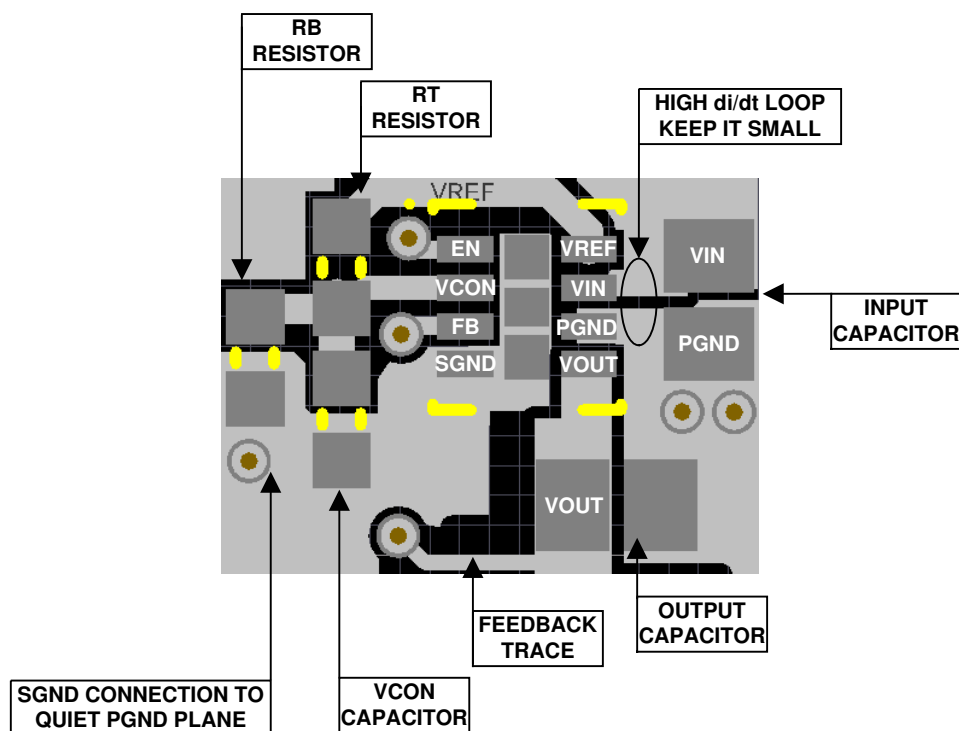

図 8-26. Example Top Layer Board Layout
The LMZ10500 integrates the inductor and simplifies the DC/DC converter board layout. Refer to the example layout in Figure 8-26. There are a few basic requirements to achieve a good LMZ10500 layout.
2. Place the V_{CON} filter capacitor C_{VC} and the R_{B} R_{T} resistive divider as close as possible to the V_{CON} and SGND terminals. The C_{VC} capacitor (not R_{B}) must be the component closer to the V_{CON} pin, as shown in Figure 8-26. This allows for better bypass of the control voltage set at V_{CON} .